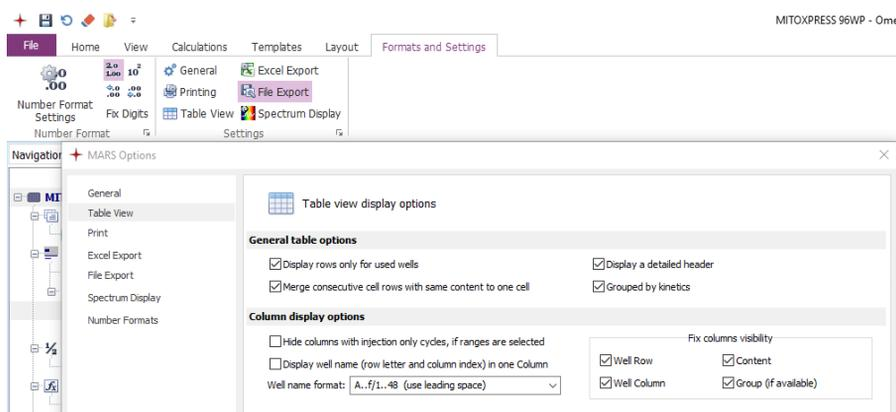

Figure 10. Well name format option
- 3 Select the option, **A..f/1..48 (use leading space)** from the **Well name format** dropdown menu. See Figure 10.